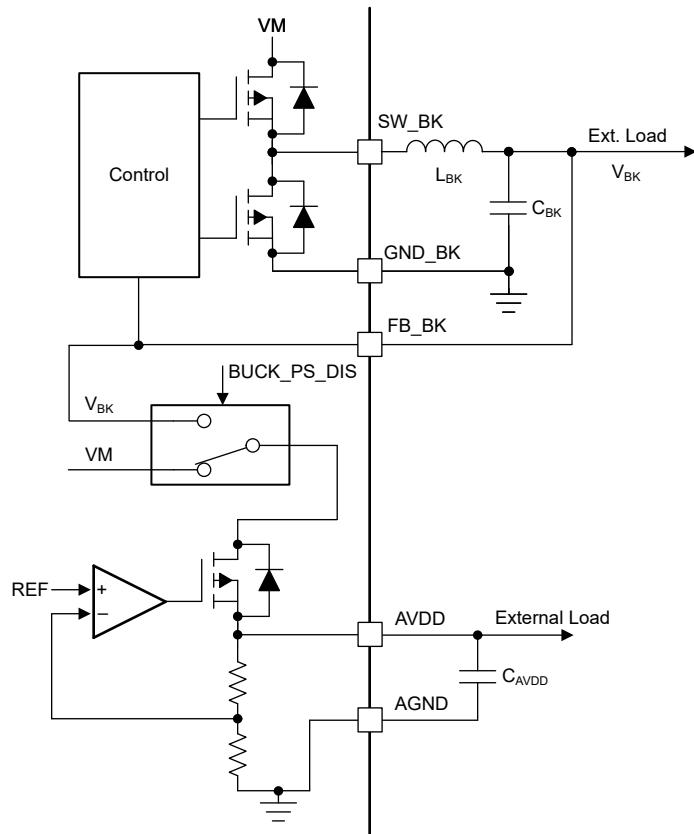

図 8-13. AVDD Power Sequencing on mixed mode Buck Regulator
The AVDD LDO has an option of using the power supply from mixed mode buck regulator to reduce power dissipation internally. The power sequencing mode allows on-the-fly changeover of LDO power supply from DC mains (VM) to buck output (VBK) as shown in 図 8-13. This sequencing can be configured through the BUCK\_PS\_DIS bit. Power sequencing is supported only when buck output voltage is set to 5.0 V or 5.7 V.